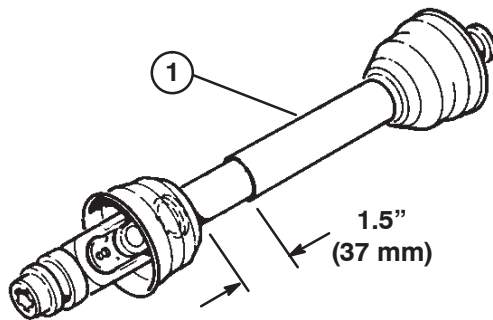

Figure 6
4. At it's shortest length, the two halves of the PTO shaft must have at least 1.5 inches (37 mm) of additional clearance to collapse (Fig. 6). If the dimension in step 2 is not at least 1.5 inches (37 mm) greater than the